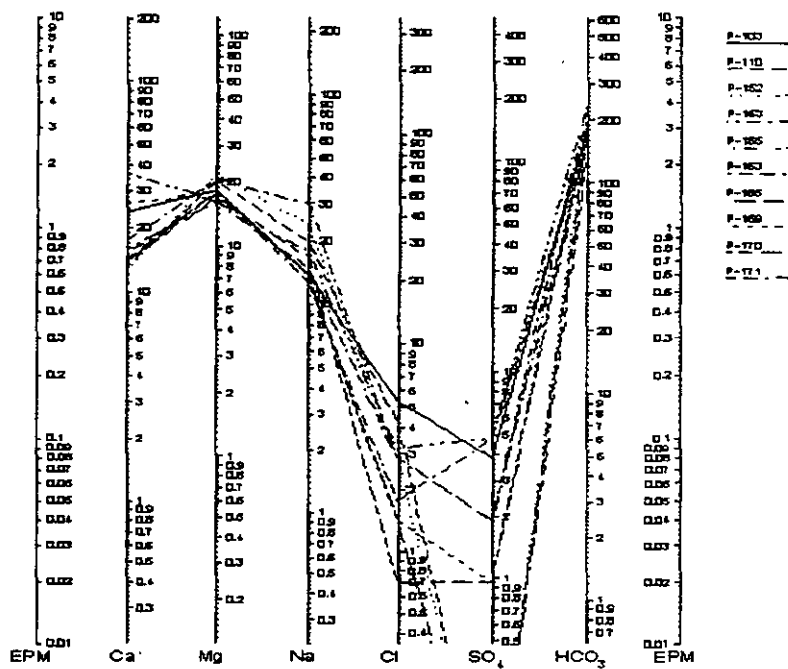

Figure 7-10
The SCHOELLER Diagram, named after professor Schoeller, is a group diagram displaying (1) the total concentrations of major cations and anions in both ppm and epm, and (2) the relative water composition for many samples. Because of the graphical limitations of lines (solid, dashed, dashed dotted, and dots on the line) it is not advisable to display more than 10 samples on one Schoeller diagram. Read also section 7.6. Options. One example is shown in Figure 7-10.